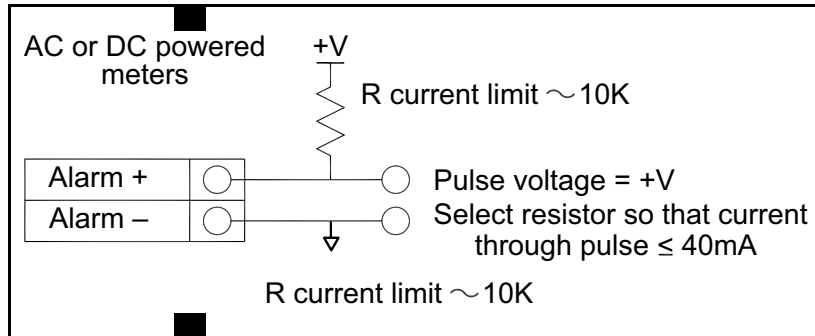

Figure 45: Isolated Alarm Output with External Power Supply
- For AC or DC powered meters, use a separate 5 to 36 VDC power supply (see *Figure 45 on page 45*). Use this option if a specific voltage is needed for the alarm output.